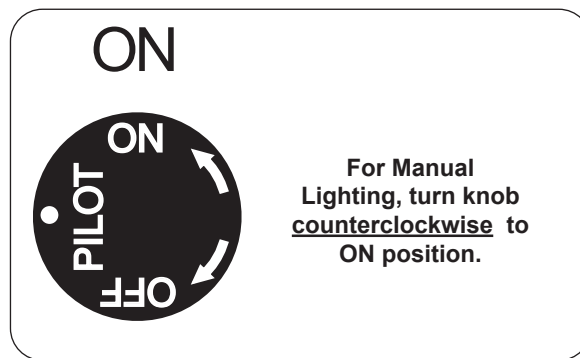

Fig. 29-3 Control knob detail (ON)
2. Turn the gas control knob counterclockwise to **ON** (Fig. 29-3) to ignite the burner. The valve will open and the burner will light.